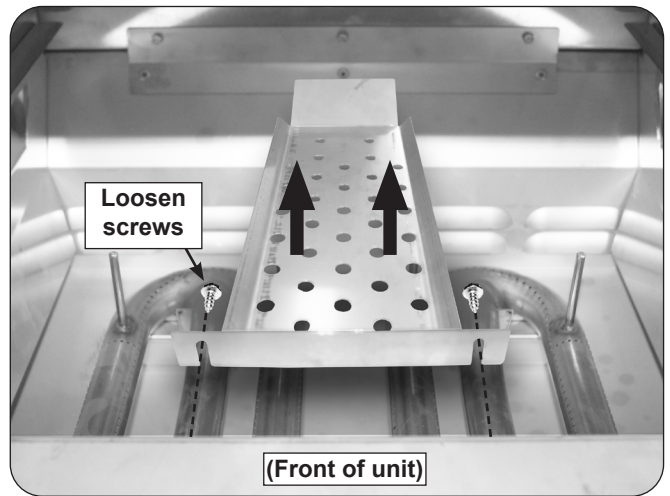

Fig. 42-1 Heat distribution grid removal
3. Loosen the two $\frac{5}{16}$ " hex screws and remove the heat distribution grid by lifting up, then outward, freeing the cutouts from the two loosened screws (see Fig. 42-1).